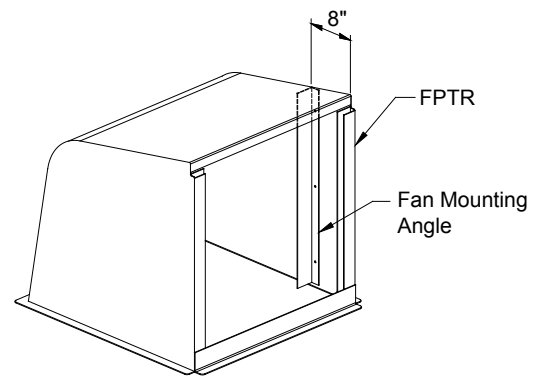

Figure 9
With FPTR opening facing you, measure 8" back from inside of FPTR. Place one angle piece against wall of FPTR, keeping the 1½" side of the angle piece against wall and the 3" side facing out. **See Figure 9.** Secure angle piece to FPTR using (3) ¼" Truss Head Bolts [E] and (3) ¼" Nylock Nuts [F] (provided). Repeat for second side.